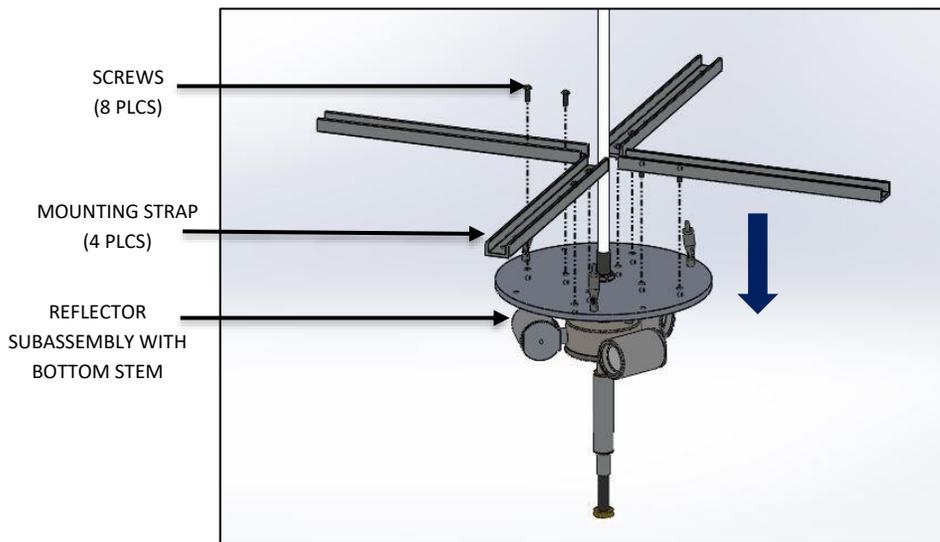

FIG. 14 – MOUNTING
2. Assemble **MOUNTING STRAPS** to **REFLECTOR ASSEMBLY** by **SCREWS** provided.as shown below in FIG. 14.